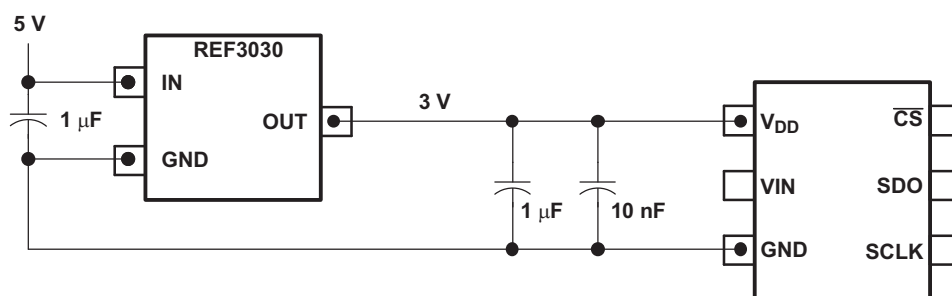

Figure 33. Using the REF3030 Reference
- A reference output from a low drift and low drop out reference voltage generator like REF3030 or REF3130. The ADS7886 operates from a wide range of supply voltages. The actual choice of the reference voltage generator would depend upon the system. Figure 33 shows one possible application circuit.